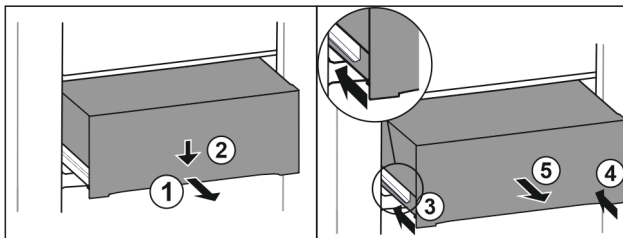

Fig. 106
- ▶ Pull out drawer half-way. Fig. 106 (1)
- ▶ Push the drawer down at the front. Fig. 106 (2)
- ▶ Push the left rail in by about 2 cm. Fig. 106 (3)
- ▶ Push the right rail in by about 2 cm. Fig. 106 (4)
- ▶ Remove drawer to the front. Fig. 106 (5)